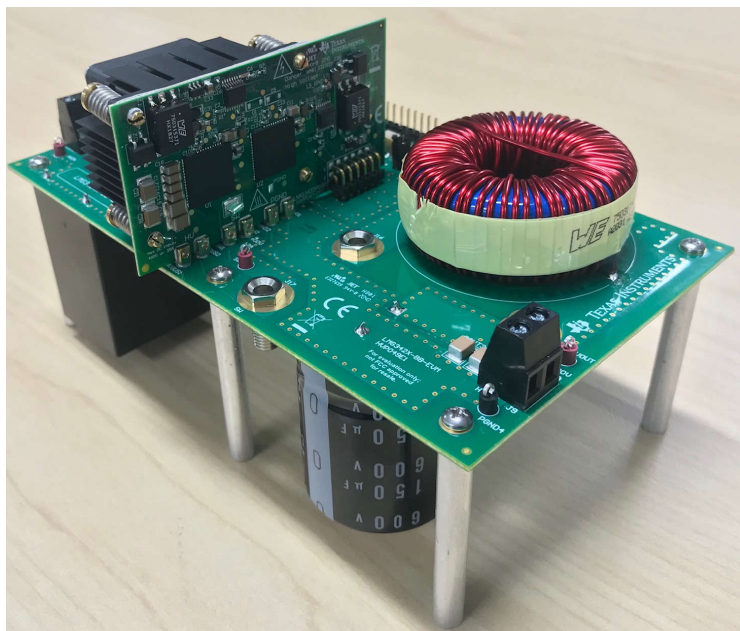
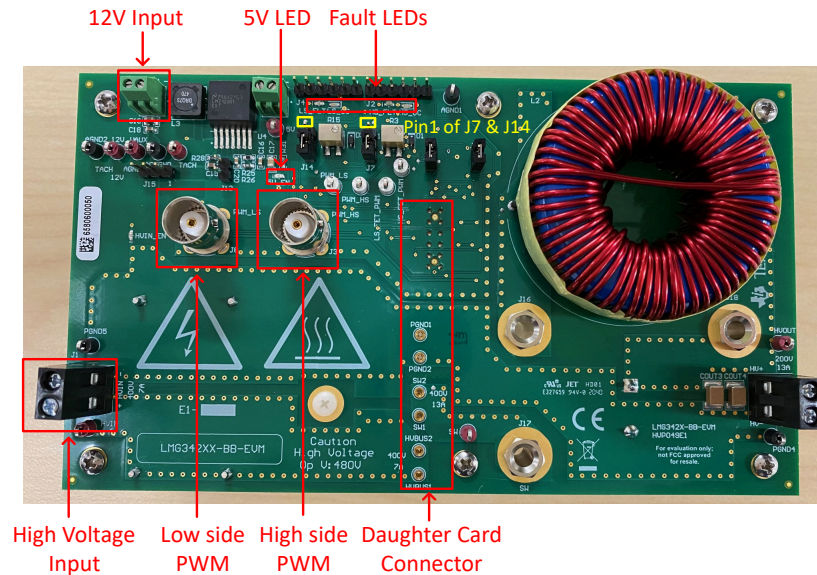

Figure 2-5. LMG342X-BB-EVM Motherboard With LMG2650EVM-100
Figure 2-6. Connector and LEDs on the LMG342X-BB-EVM
1. Connect the LMG2650EVM-100 to LMG342X-BB-EVM as shown in step 2; see Figure 2-5. The area for connection on the mother board is shown in Figure 2-6.
6. If two complementary PWM signals with dead time are provided to J3 (high-side PWM) and J8 (low-side PWM), then connect pin 1 to pin 2 for header J7 and J14 (pin 1 of J7 and J14 are indicated in Figure 2-6). This action allows the two PWM signals to directly control the high-side and low-side devices.
9. Connect the signal generator output to the LMG342X-BB-EVM PWM input as shown in Figure 2-6.
10. Connect 12V, 2A DC power supply to the LMG342X-BB-EVM 12V bias supply as shown in Figure 2-6.
11. Connect the high voltage power supply to the LMG342X-BB-EVM high voltage input for buck mode (high voltage) as shown in Figure 2-6.